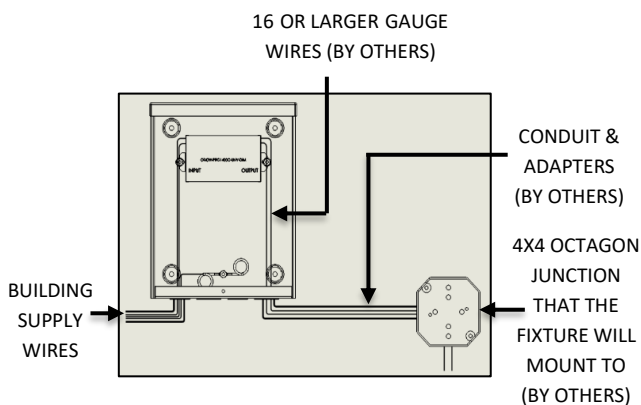
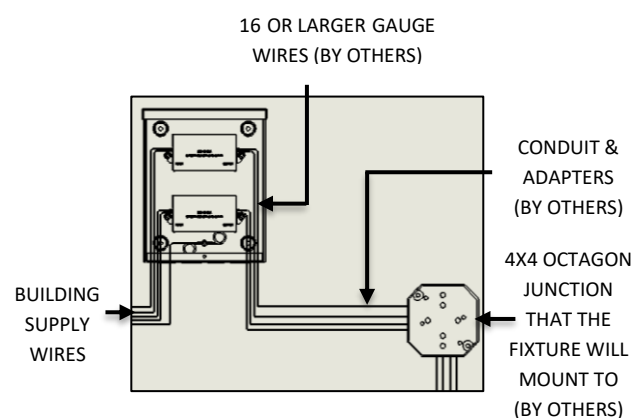

FIG. 9 – WIRE CONNECTION FROM BUILDING SUPPLY TO J-BOX FOR 24, 36, 48 AND 60 MODELS
FIG. 10 – WIRE CONNECTION FROM BUILDING SUPPLY TO J-BOX FOR 72 MODEL
- Dimming wires as shown on the driver in FIG. 9 and FIG. 10 below.